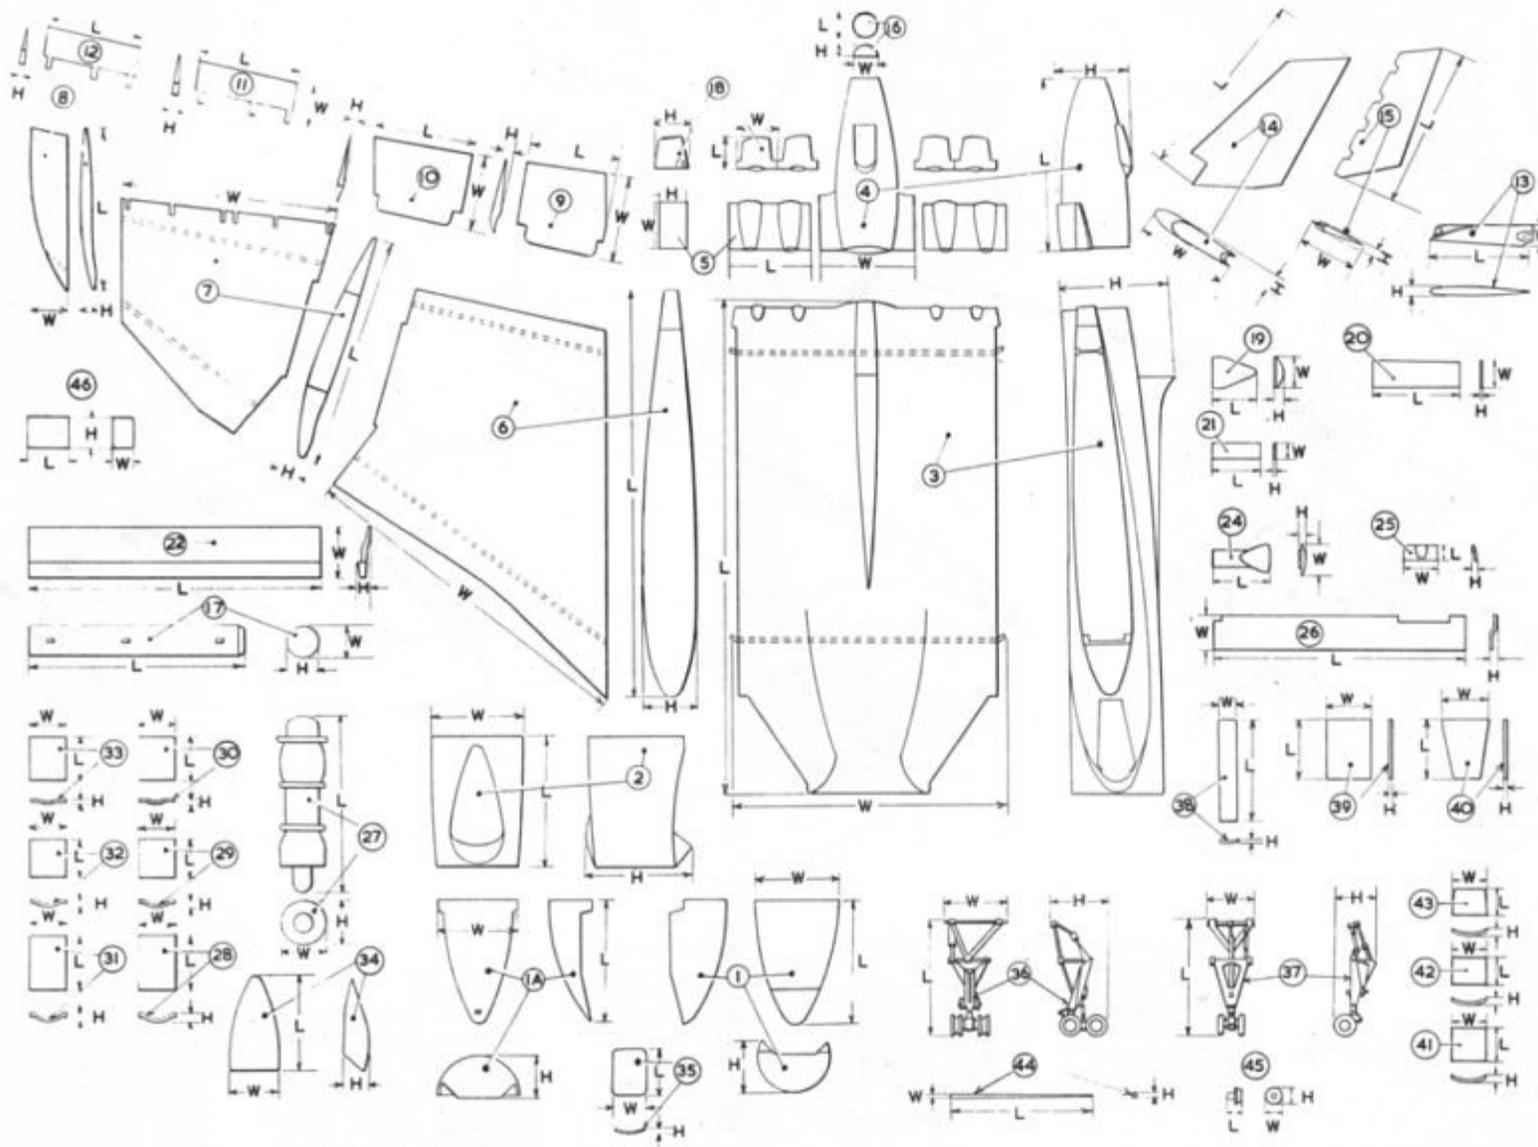

Fig. 3 Component weights and dimensions
7. The weight and dimensions of various components are given in the key to fig.3.
KEY TO FIG. 3